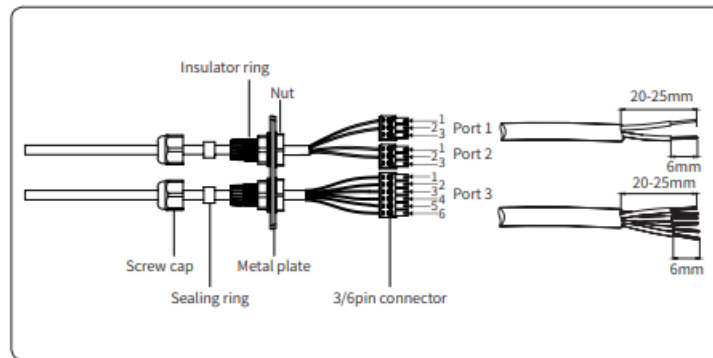

Figure 4-23
- Put the cable through the connector and connect to the terminal in the following order: screw cap, sealing ring, insulator, metal plate, nut and 3/6pin connector, as shown in Figure4-23: